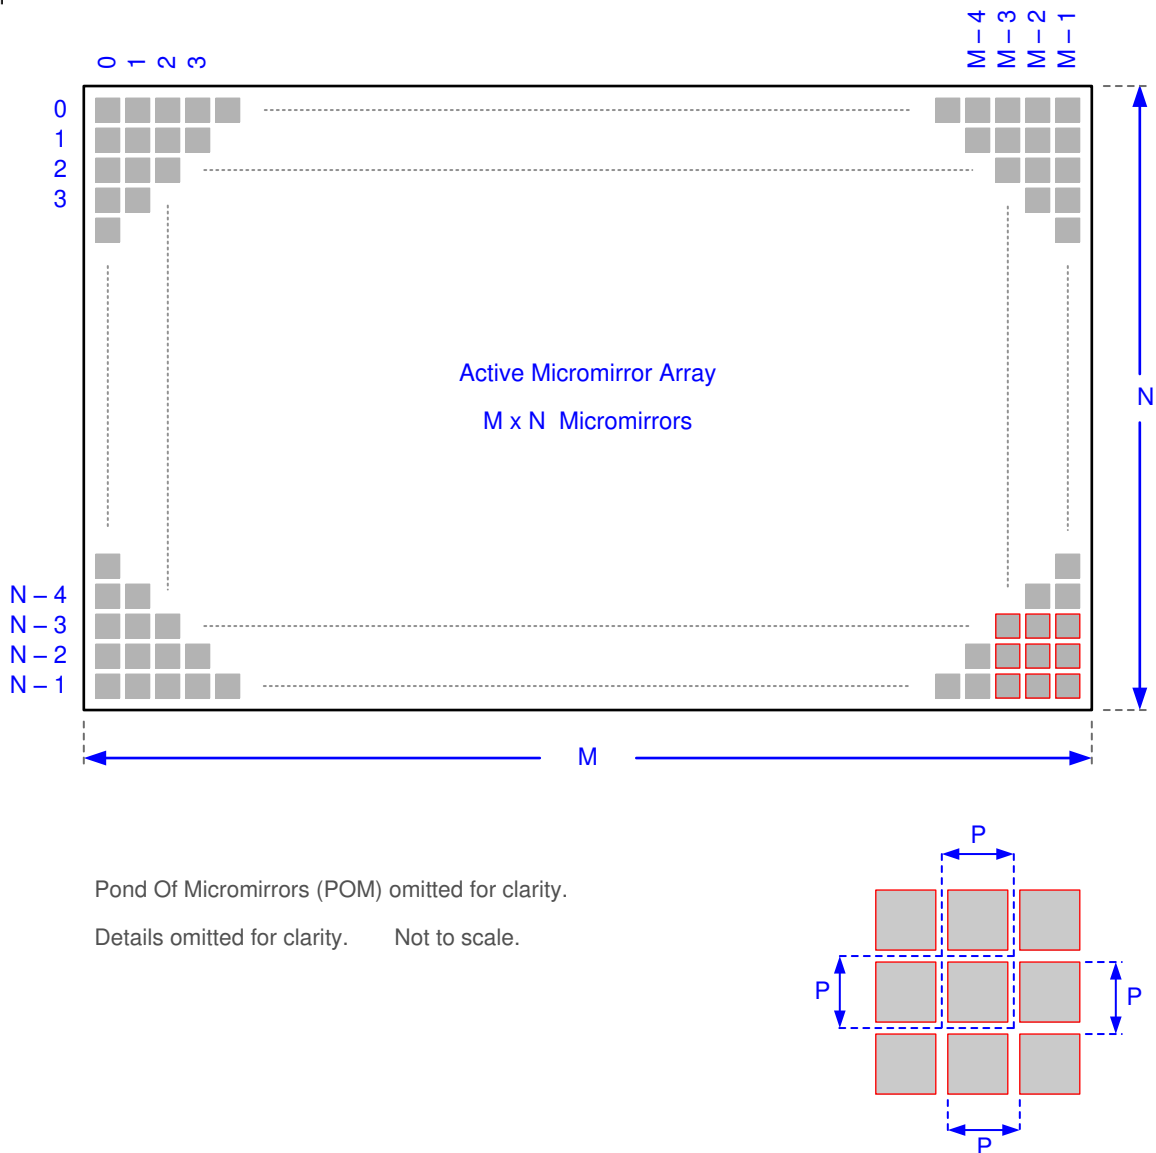

图 5-8. Micromirror Array Physical Characteristics
- (1) See 图 5-8.
(2) The structure and qualities of the border around the active array includes a band of partially functional micromirrors called the *Pond Of Mirrors* (POM). These micromirrors are structurally and/or electrically prevented from tilting toward the bright or “on” state but still require an electrical bias to tilt toward “off.”